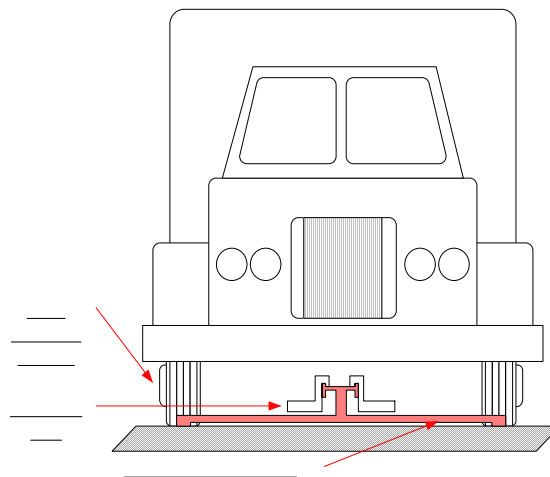

Figure 20
1. Place TLT-44 Level Compensator Bar (that has been assembled to match the tread width and is calibrated) in front of wheels as shown in Figure 20.
(refer to Figure 20)
To calibrate TLT-44 Level Compensator it must be assembled. Figure 20 shows the bar placed under the front wheels of the vehicle to be measured. Since the bar rests near the front wheels, it is tilted the same amount as the vehicle. The compensation procedure that follows corrects for the tilt. After assembly, the bar is calibrated according to the following procedure.